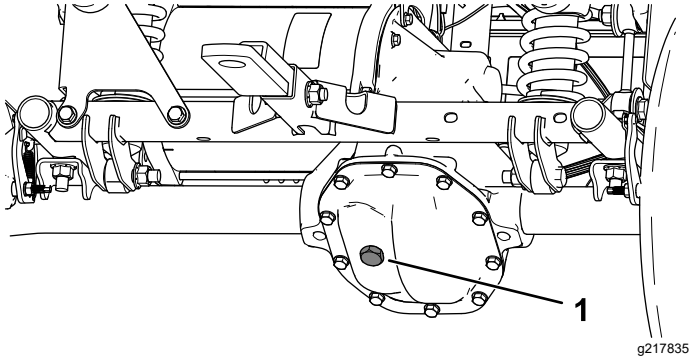

Figure 49
4. Remove the fill plug on the transaxle (Figure 49).
5. If the fluid level is low, remove the fill plug and add the specified fluid until it runs out of the hole (Figure 49).
4. Remove the fill plug on the transaxle and fill the transaxle with the specified fluid until it runs out of the fill hole (Figure 49).